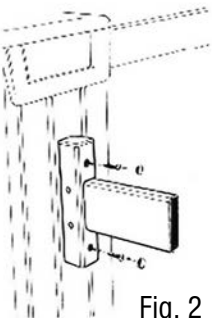

Fig. 2
2. Install mounting brackets. One mounting bracket should be attached to each of the pool's uprights. Brackets should be attached so that there is a maximum of 4" between the pool's top-rail and the bottom rail of the fence. See Fig 2